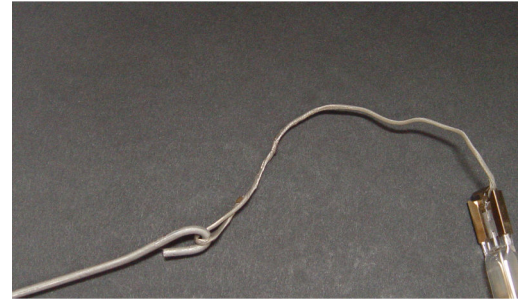

Figure 4-2: Lamp lead wire looped through Lamp Rod
4.2.3 Insert the Lamp Rod Tool through the lamp holder hole to the other side. Have one assistant take an end of the lead on the new lamp push it into the loop of the Lamp Rod Tool, bending the lead back about a half an inch as shown in figure 4-2. Pull the lead through having the assistant hold the lamp straight until it comes out of your side. Carefully pull the end of the lamp all the way through the furnace chamber and center.